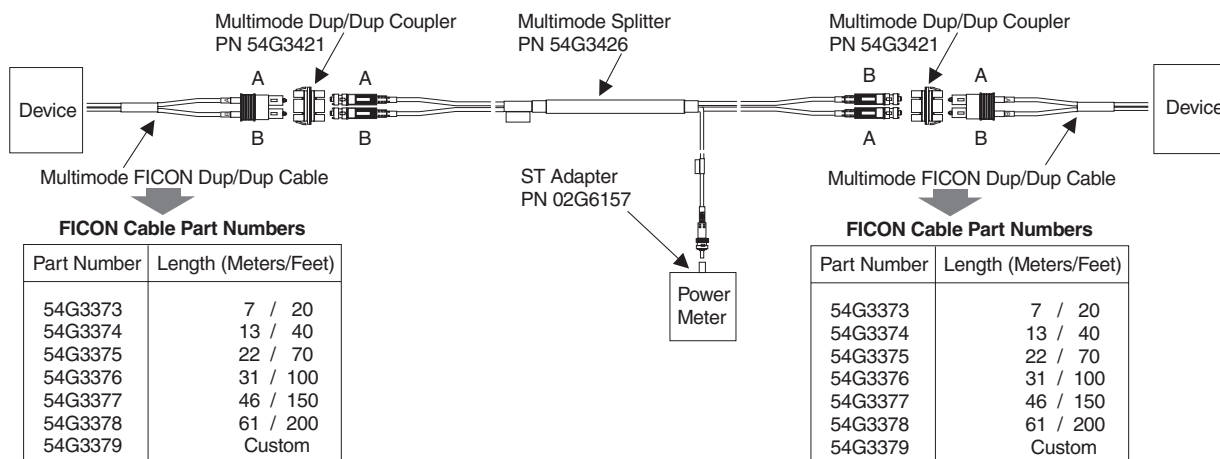

Figure 3-7. Isolating a Multimode Link Segment with a Splitter Tool
- Multimode links—See Figure 3-7 on page 3-26.